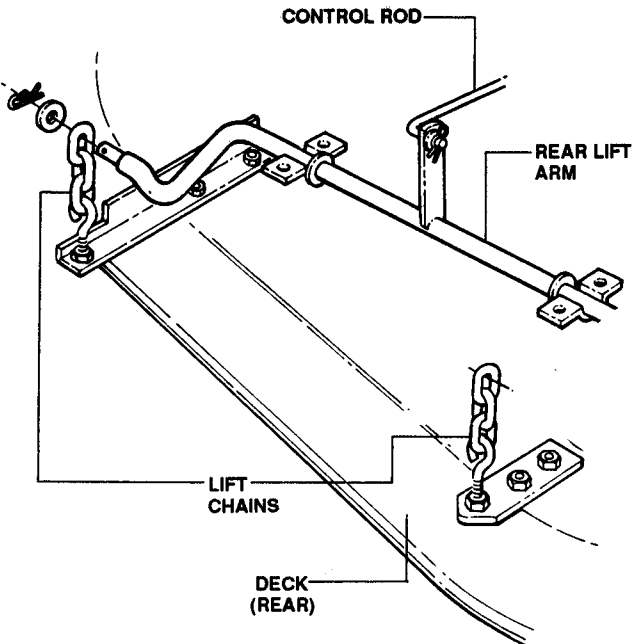

FIGURE 27
3. Remove hairpins and washers from REAR LIFT ARM CHAINS. See Figure 27.